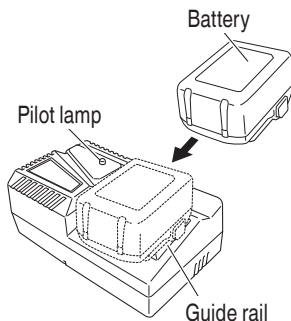

Fig. 6
2. Insert the battery to the battery charger. Firmly Insert the battery into the battery charger as shown in Fig. 6.